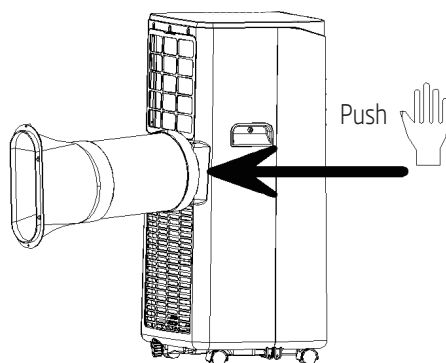

Fig. 1
1. Install the heat pipe assembly (as shown in Fig. 1)
- 2) Insert the heat pipe assembly (the end of the exhaust joint) into the back panel vent slot (push to the left) and complete the assembly (as shown in fig. 1).